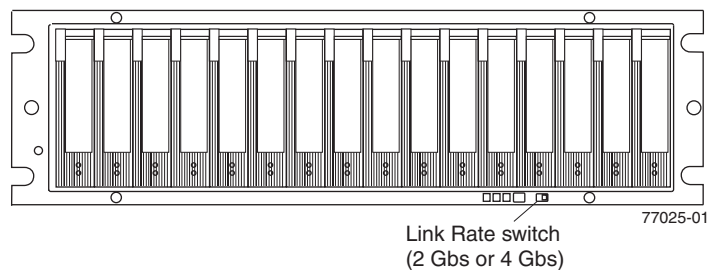

Figure 43. Link rate switch
A Link Rate switch is located on the front of the storage expansion enclosure as shown in Figure 43 on page 83. The Link Rate indicator LEDs are located on the back of the storage expansion enclosure. The Link Rate switch enables you to select the data transfer rate between the ESMS and the drives to either 2 Gbps or 4 Gbps. The Link Rate switch is only read when the storage expansion enclosure is powered up.
4. Locate the Link Rate switch. Figure 43 shows the location of the Link Rate indicator light on the front of the command module.